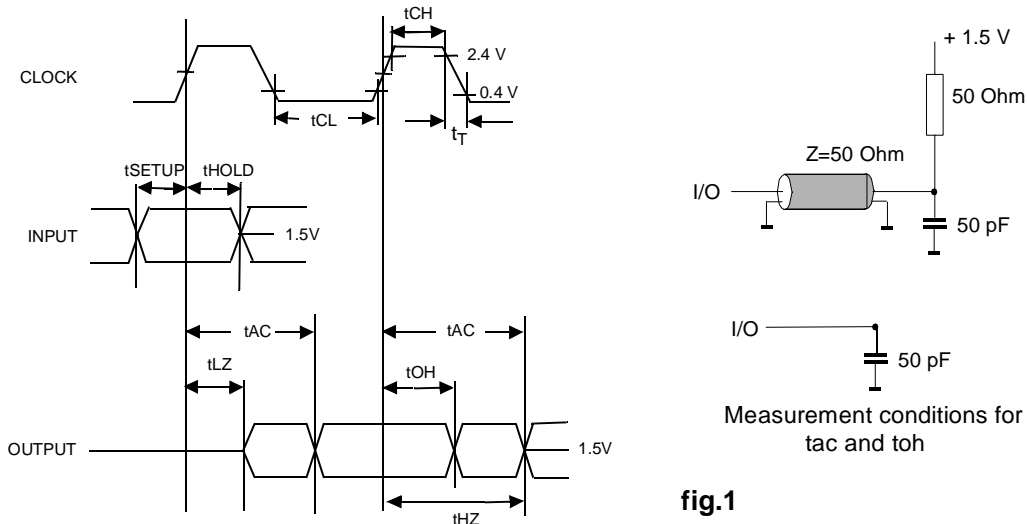

fig.1
2. AC timing tests for LV-TTL versions have $V_{il} = 0.4\text{ V}$ and $V_{ih} = 2.4\text{ V}$ with the timing referenced to the 1.5 V crossover point. The transition time is measured between V_{ih} and V_{il} . All AC measurements assume $t_T = 1\text{ ns}$ with the AC output load circuit shown in fig.1. Specified t_{ac} and t_{oh} parameters are measured with a 50 pF only, without any resistive termination and with a input signal of 1V / ns edge rate between 0.8V and 2.0 V..